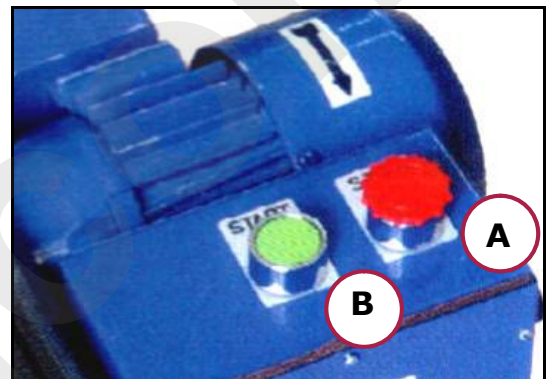

Figure 5 – Control switches
3. Start the machine, by pressing the green start switch (see Figure 5) and make sure that the direction of rotation of the tool is in accordance with that indicated by the arrow affixed to the protective casing of the motor.
The green "START" button (ref. B in Figure 5) located on the control panel is used for starting (switching on) the Chamfering machine.
The red "STOP" button (ref. A in Figure 5) is used for shutting down the Bench chamfering machine, both under normal conditions of use, and in cases of emergency.
1. Press the green start button (ref. B in Figure 5).
3. When finished, turn off the machine by pressing the red stop button (ref. A in Figure 5).